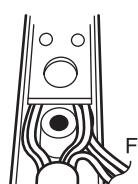

Fig.5
- Route the lead wires around both sides of the boss, so that the wires are not pinched between the boss and the board. Verify that the sleeve is under the board. See Figure 5.